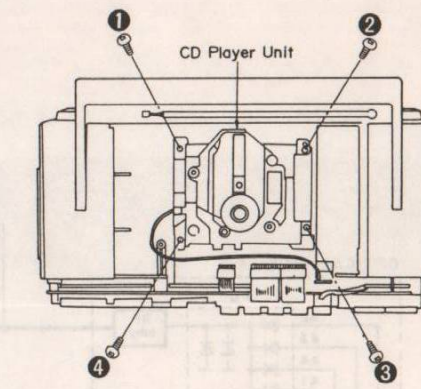

Fig. 1
3. Remove the 4 screws (1~4), and then remove the CD player unit. (See Fig. 1)